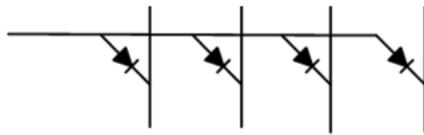

Figure 5.14: One row of LEDs
examine a row of four LEDs. The positive end of all the diodes are connected together and brought out as the row signal, as shown in Figure 5.14. The negative end of each diode is connected to a wire that runs vertically, which we will connect to at the bottom of the array. So for a single row (1) of four (4) LEDs, we have a 1×4 array, with one row connection on the left, and four connections at the bottom of the array. If we wanted to turn on the first LED from the left, we need to allow current to flow through the LED by connecting its column wire low (of course through a current limiting resistor that is not shown) and connect the row wire to Vdd. This will allow current to flow from Vdd through the diode to Gnd. Setting any of the column wires low (through a current limiting resistor) will cause that LED to light up. Driving that column wire high will cause the voltage drop across the diode to be zero, so it will have no current flowing through it, and it will not emit any light.